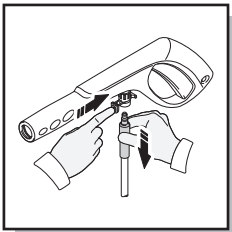
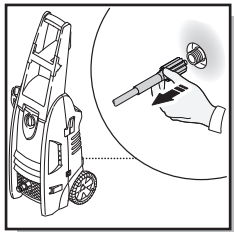

Fig.24
Fig.25
- Remove high pressure hose from gun (Fig.24) and unscrew the other end of the high pressure hose from the pressure washer. (Fig.25)